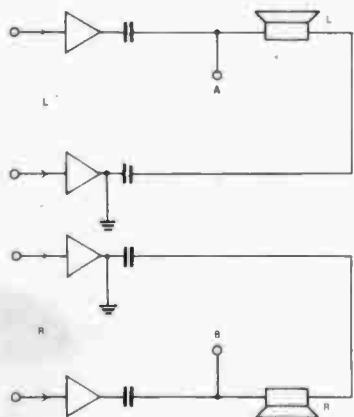

FIG. 4. In this circuit isolation is provided by blocking capacitors.
2. Isolating capacitors — Fig. 4.